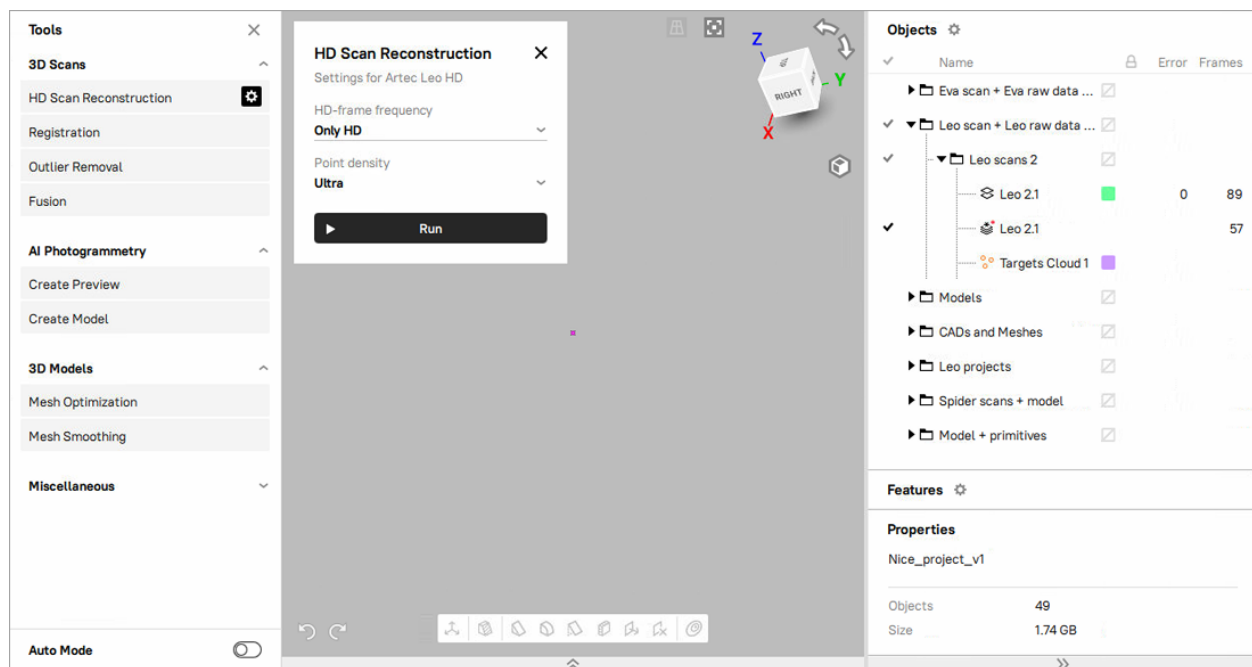

Figure 115: Launching HD scan reconstruction from saved raw HD data.
1. In the *Workspace* panel, select one or more raw data scans (Figure 115, right).
2. Open *Tools* → *HD Scan Reconstruction* (Figure 115, left).